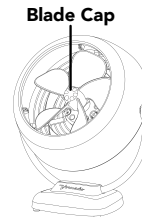
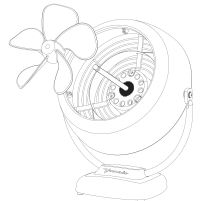

Fig. 2
Fig. 3
**VFAN, VFAN SR, VFAN SR Pedestal:** Unscrew the Blade Cap clockwise (Fig. 2). Then pull the blade straight out from the shaft (Fig. 3). When replacing, the blade can only go on the shaft one way. Push the blade all the way on the shaft until it bottoms out. Do not use a hammer as this could result in bearing damage. Replace the Blade Cap.